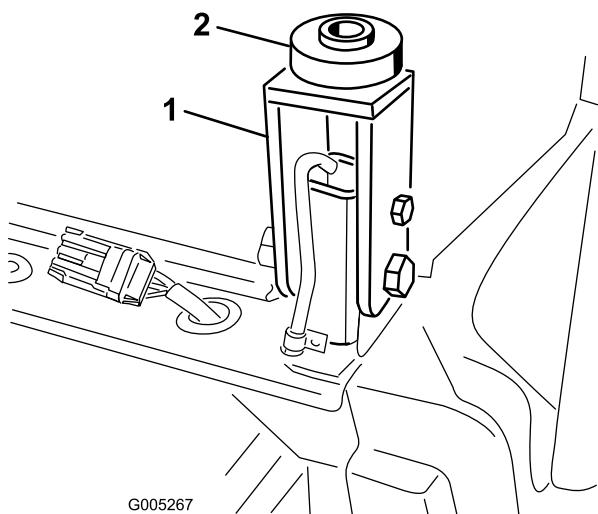

Figure 23
9. Insert a rubber mount onto each cab mount at the rear mounting locations (Figure 23).